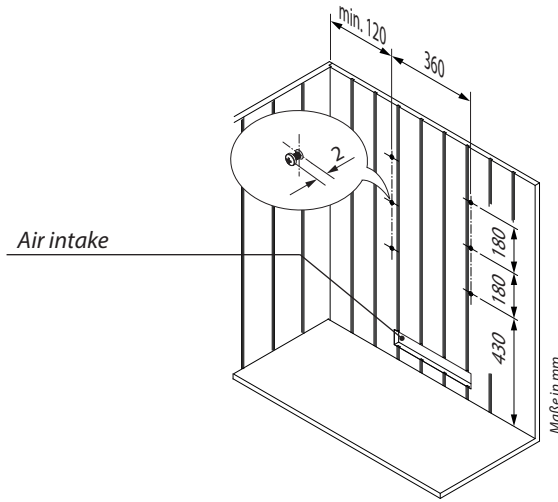

Fig. 3
- Attach the enclosed screws in the centre of the cabin wall above the air intake as shown in Fig. 3. There must be a clearance of approx. 2 mm between the screw head and the cabin wall in order to attach the sauna heater.